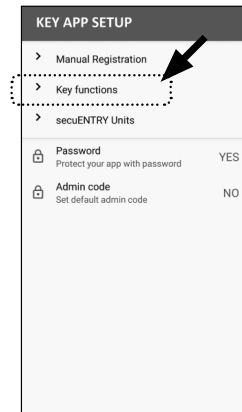

Fig. 47
- 4 Tap on "Key functions" (Fig. 47).